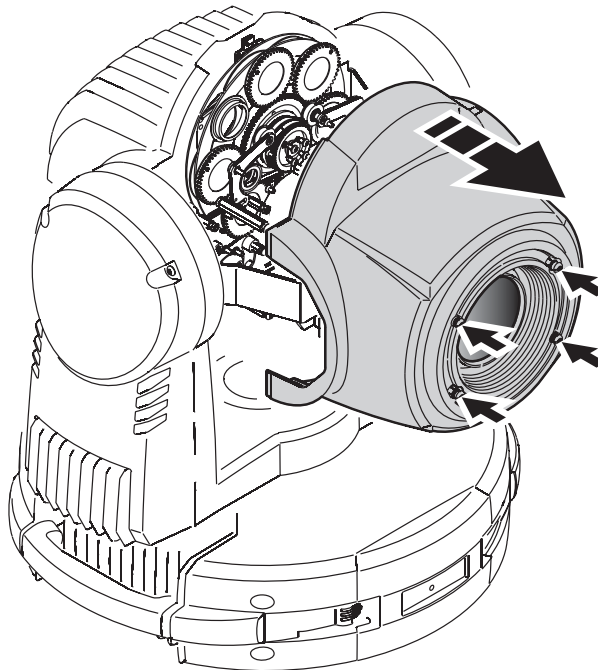

Figure 17: Removing the front cover
2. See Figure 17. Remove the four quarter-turn screws from the front cover. Lift the front cover forward slightly, detach the safety wire, and remove the front cover.